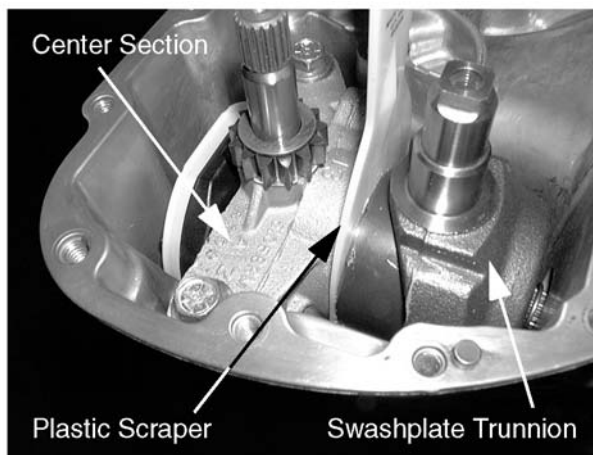

Figure 6-72.
10. Insert the hydrostatic drive assembly into the main housing, leaving the smooth scraper in place. See Figure 6-72.